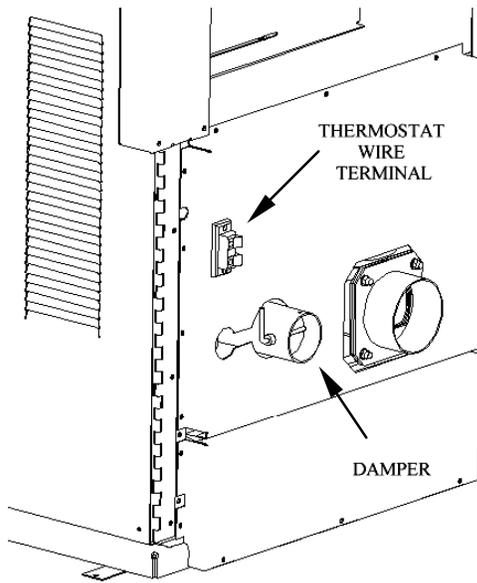

Figure 3
**Your stove is equipped with an air inlet damper. (See Figure 3) This is one of the most important areas of setting up your stove to burn corn.**
**Thermostat Control.** - Most corn stoves aren't capable of using a thermostat. This is due to the fact that corn doesn't react very well to sudden increases in the feed rate. A stove that goes from a #1 setting to a #5 setting will almost always have problems making that transition. The burn pot will overload and the fire will go out. The St. Croix corn stove uses a simple time delay between each Heat setting to allow the stove to react to the increase in corn. This allows the stove to function very well on a thermostat. A Milivolt type thermostat will work with this control board. **The stove is not fully automatic when running on a thermostat, when the thermostat is not calling for heat the stove will drop to the low (#1) setting as a pilot.** For location to connect the thermostat wires see Figure 3 on page 9.